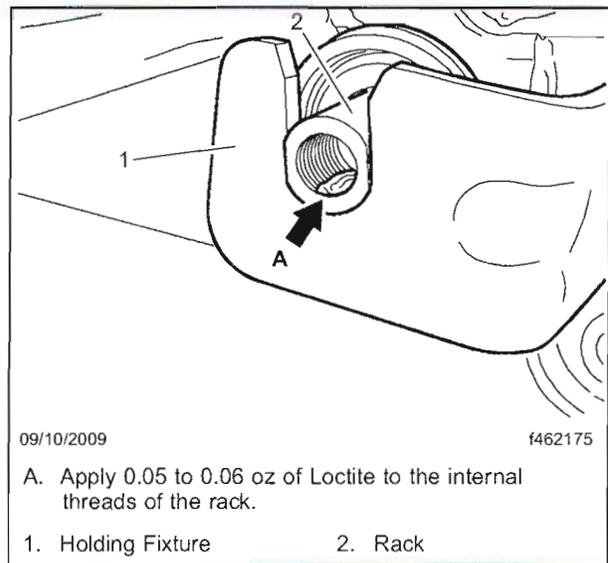

Fig. 5, Loctite Application
18. Slowly apply 0.05 to 0.06 oz (1.5 to 2 mL) of Loctite 603 Retaining Compound to the internal threads in the rack. See Fig. 5. Wipe off any excess Loctite that drips from the threads.